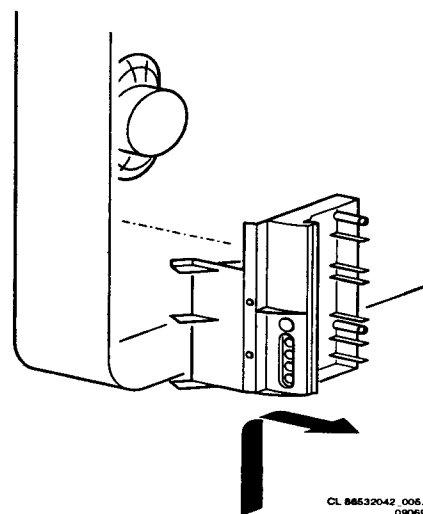

Figure 4-4
3. The two panels must be shifted some 25 cm to the right. When doing this the side-assembly can be taken out of the hinge (see figure 4.4), and placed on the bottom tray.